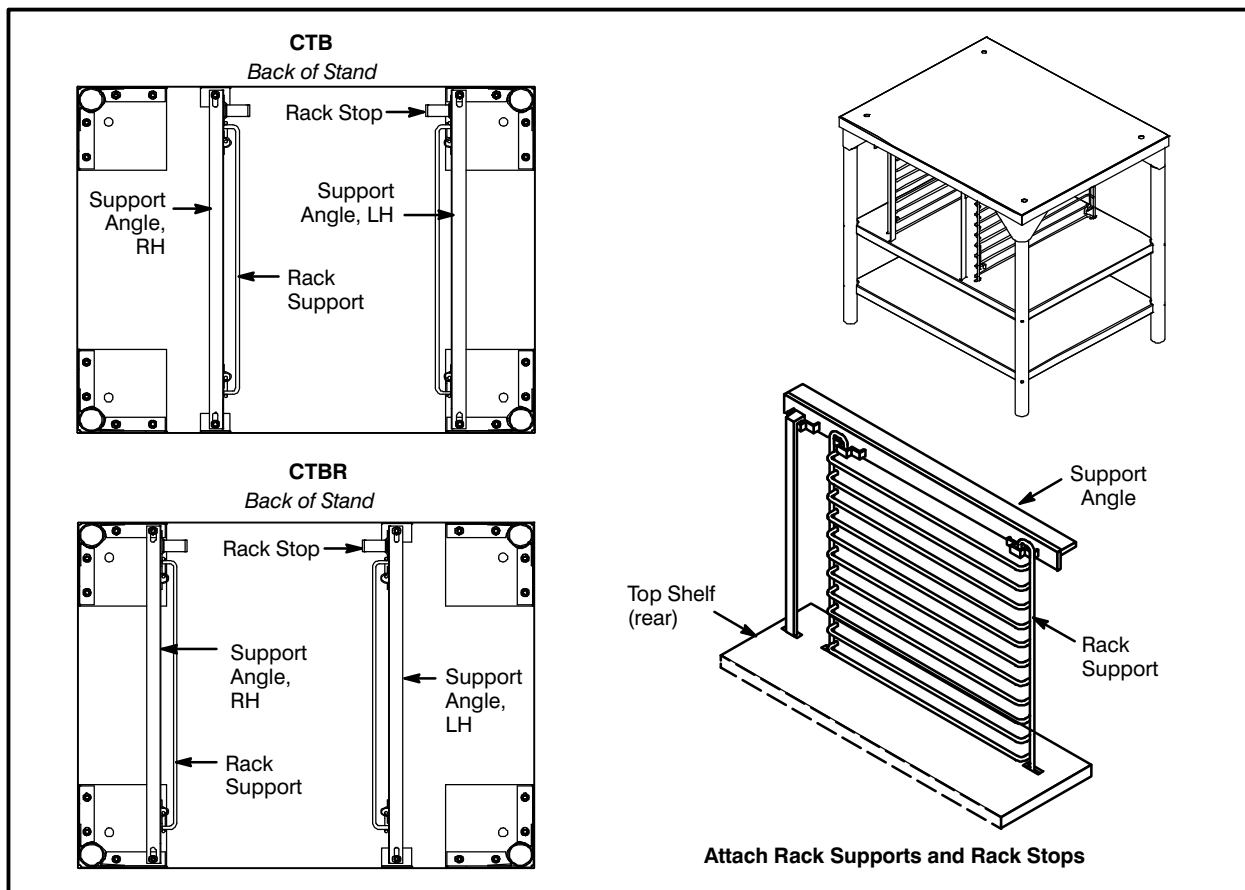

FIGURE 3
1. Lay stand frame top down on the floor as shown. See FIGURE 3.
*NOTE: Be sure the support angles and clips are located correctly for your oven configuration. See FIGURE 3.*